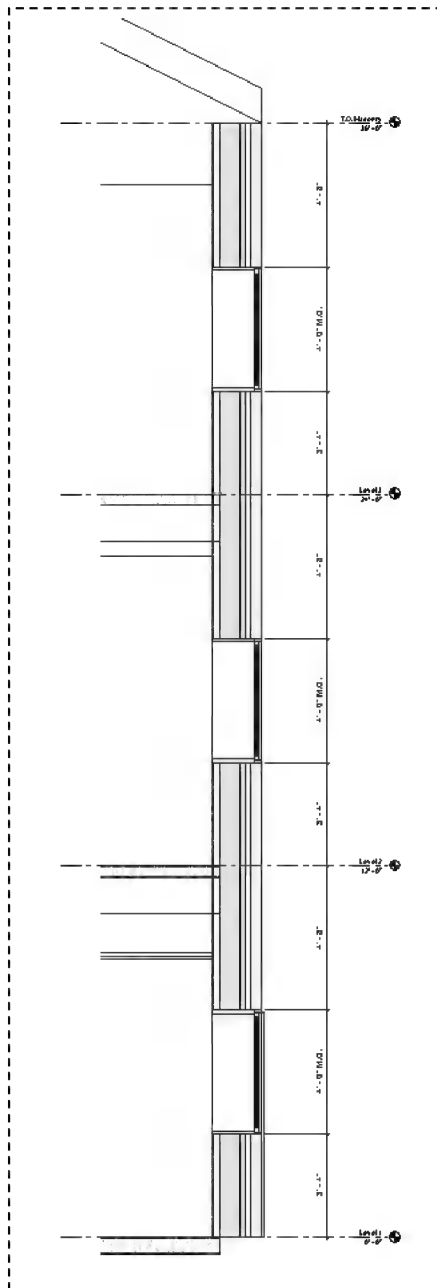

Figure 10-4.4 All dimensions added
8. Add the additional dimensions shown in **Figure 10-4.4**; be sure to add the suffixes.